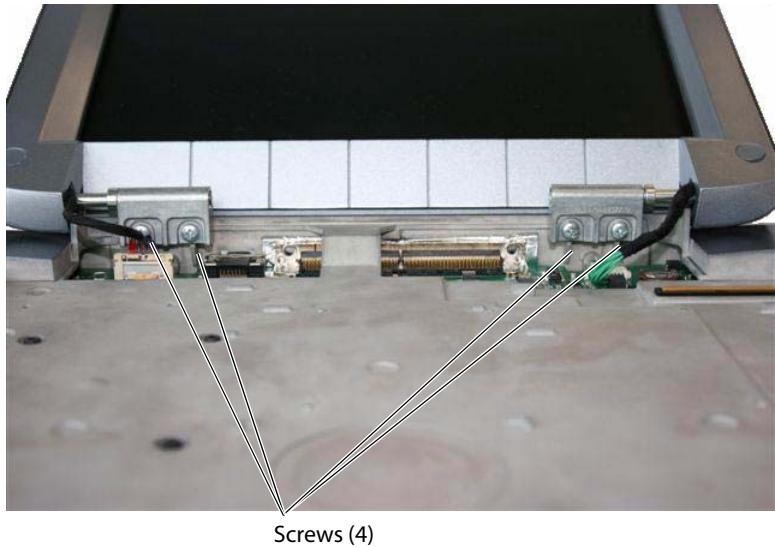

Figure 4.6 Display Screws
- 7 Remove the four screws from the Display Hinges per Figure 4.6.